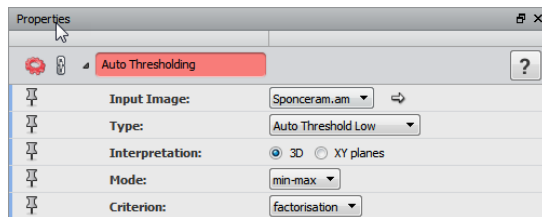

Figure 17.5: Auto Thresholding Module Configuration
2. Separate the void of the material using an *Auto Thresholding* module. Set the *Type* port to *Auto Threshold Low*. It will create two outputs `Sponceram.info` and `Sponceram.labels` (see Figure 17.5).